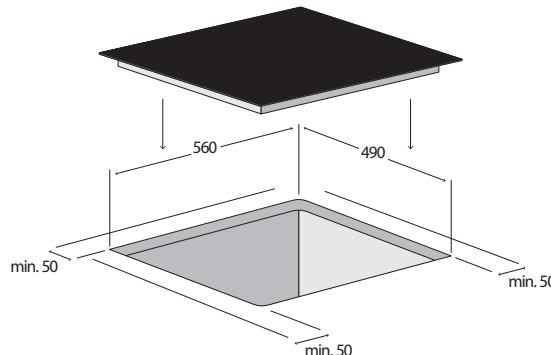

Fig. 5
- The appliance should be assembled into correct built-in units and work surfaces that align to the standards and have dimensions shown in Fig. 5.
- The required dimensions of the built-in space in the worktop made of heat-resistant material of a minimum thickness of 38–40 mm are on Fig. 5.